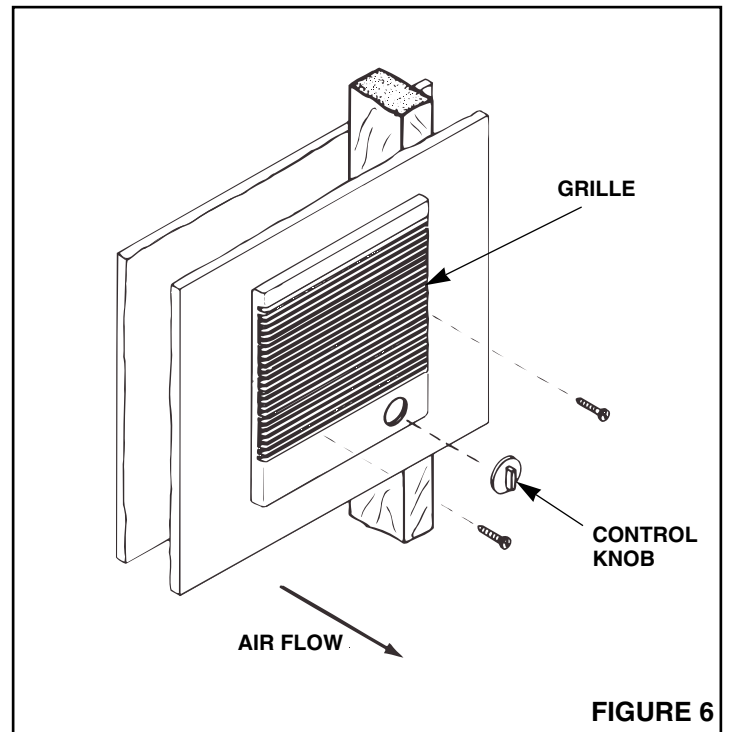

FIGURE 6
9. **Refer to Figure 6.** Mount motor and fan assembly, grilles, and control knob in same manner as described under “**Completing Assembly**”.